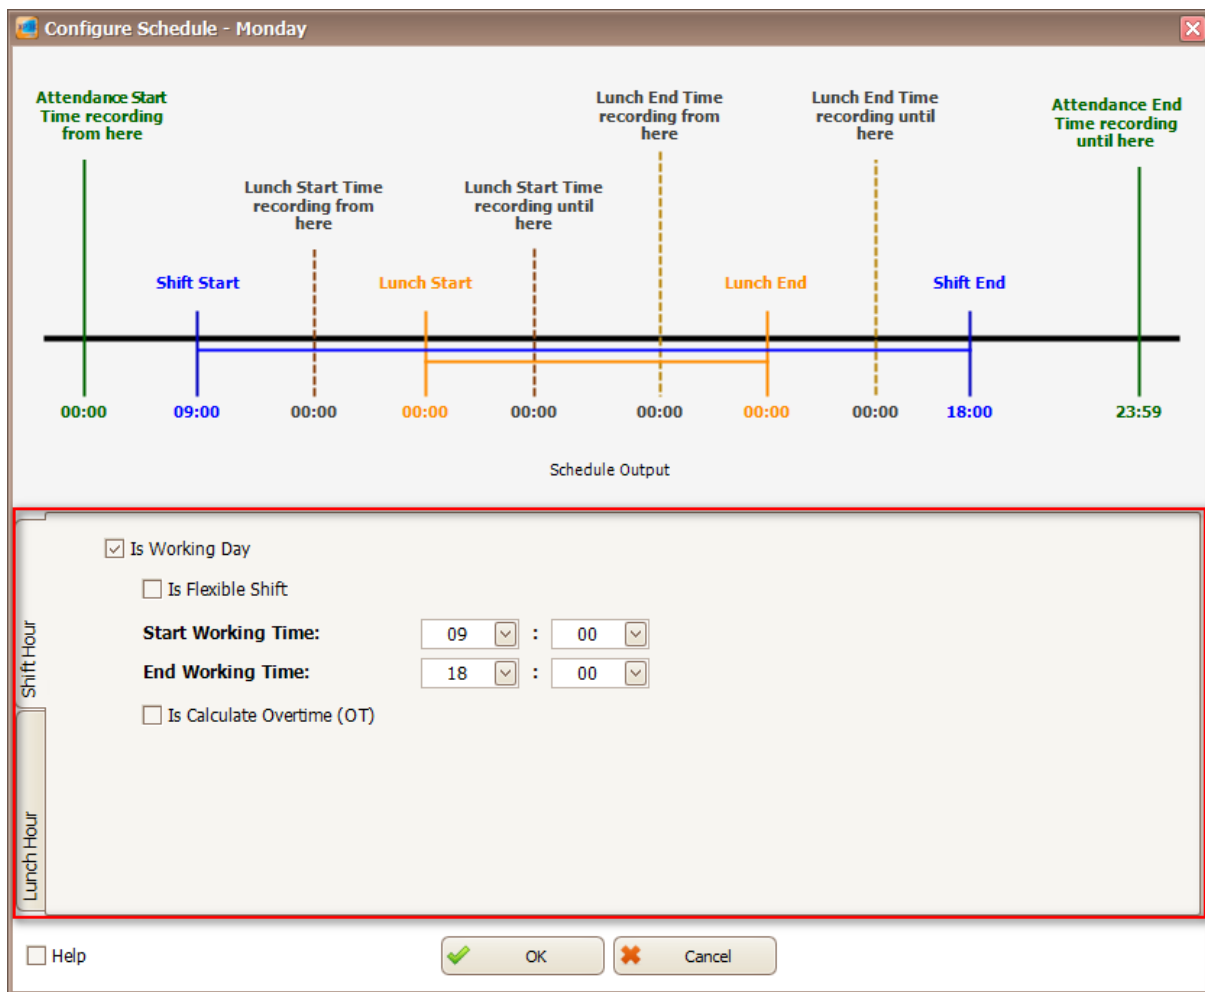

Figure 59 - Edit schedule
10. The following screen will be shown after you right click on the grid row (Refer **Figure 59**). You can configure shift hour and lunch hour in this screen. Click OK to update the changes.